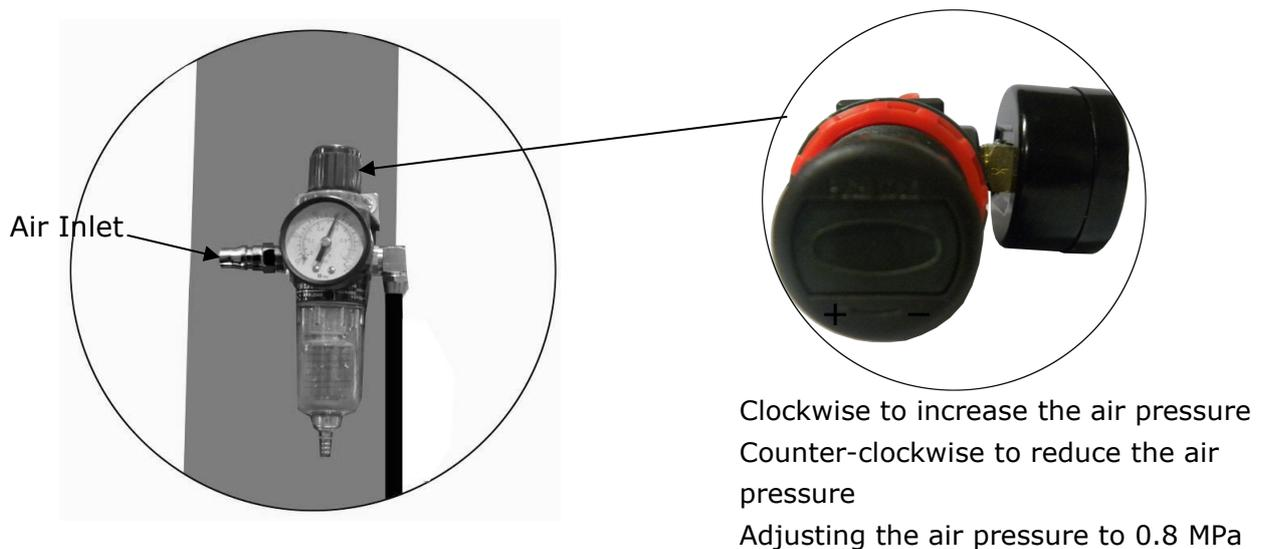
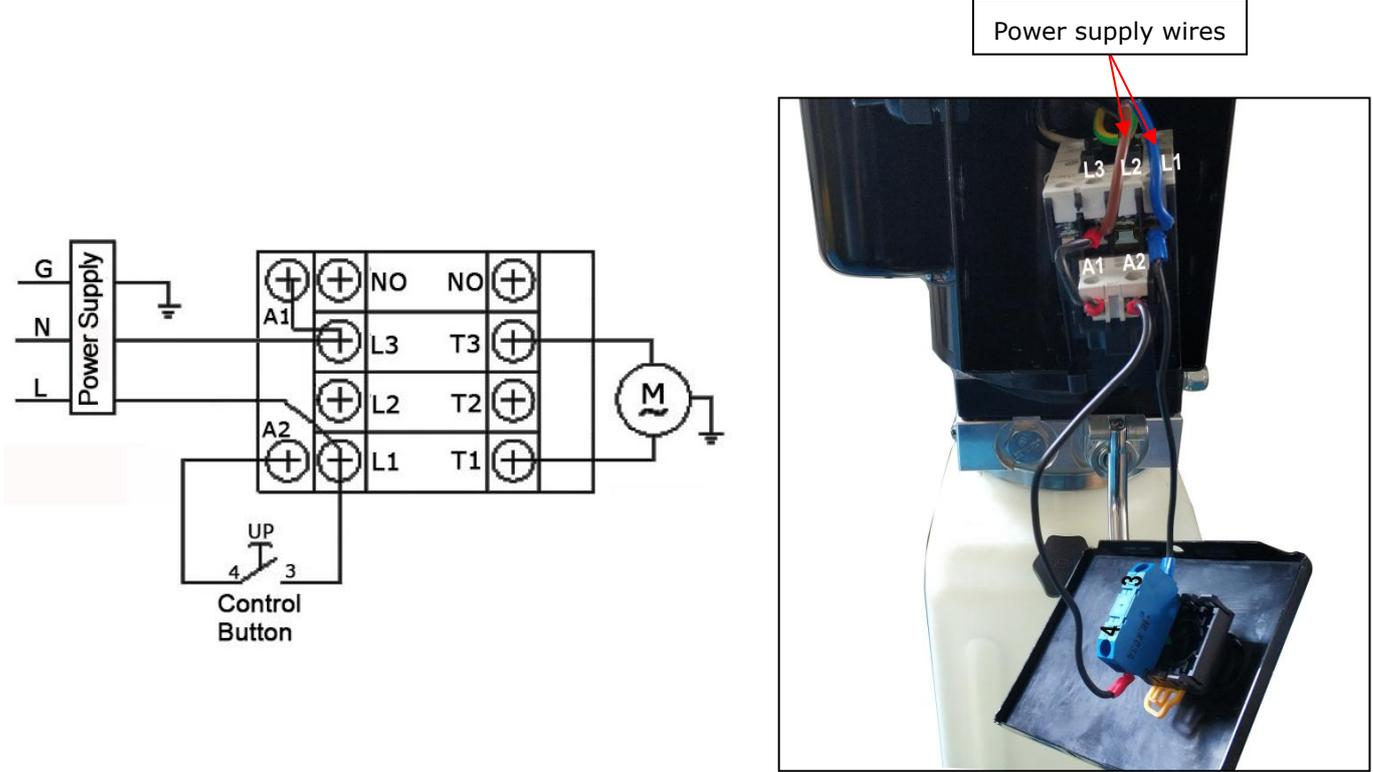

Fig.39
Fig. 40
5. Connecting air inlet (Air supply pressure $5 \text{ kg/cm}^2 - 8 \text{ kg/cm}^2$), adjusting the air pressure of Oil-water separator to 0.8 MPa **(See Fig.39)**
Single phase motor (See Fig. 40)
1. Lift the equipment to about 1400mm from ground, lock it to the safety ladder, remove the cable limit bolts and platform fixing bolts (see Fig.39, Fig 40)